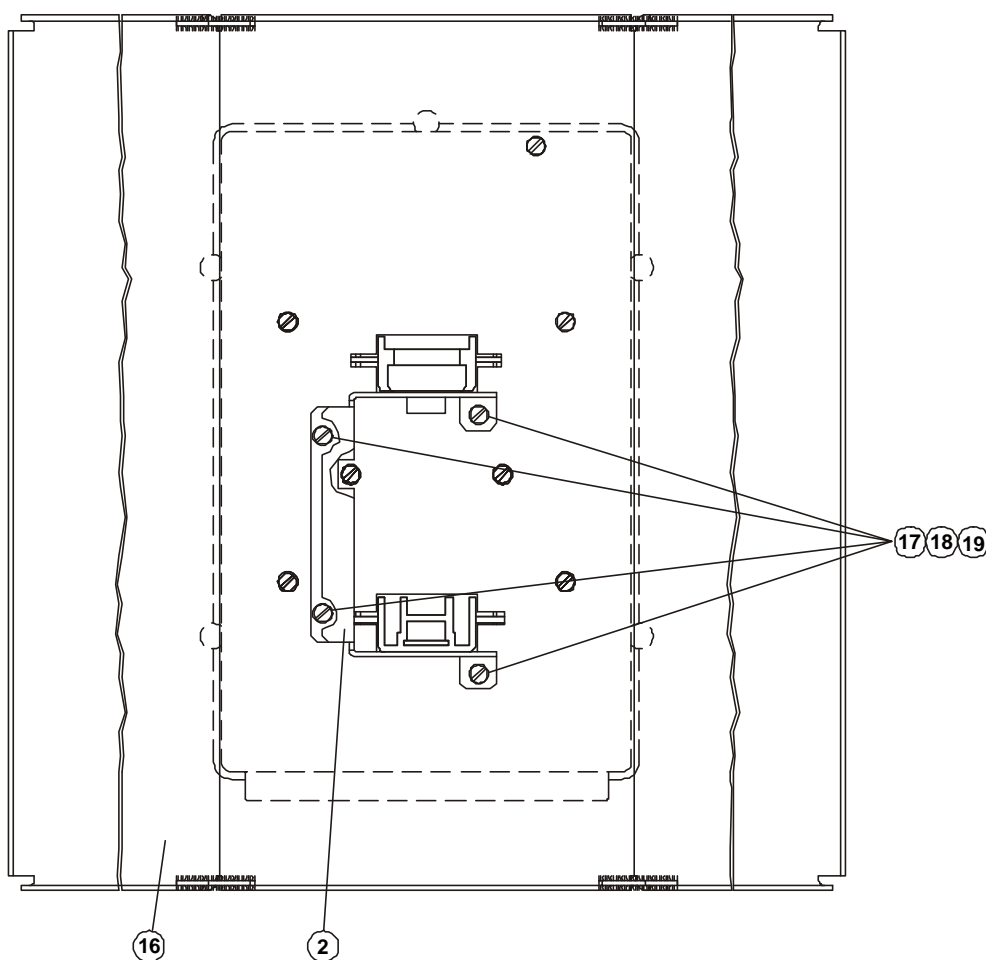

Figure 3-21. Tilt Holder Attachment
Figure 3-21 shows an upper view of a tilt holder attached to a sectorized antenna with external reflector (16).
- (1) Skip this step for antenna without external reflector: place the tilt holder (2) on the reflector as shown in Figure 3-21 and fasten it to the reflector by means of four screws and shims (17, 18, 19).
- (2) Skip this step for antenna with external reflector, place the tilt holder (2) on the rear side of the antenna as shown in Figure 3-21.